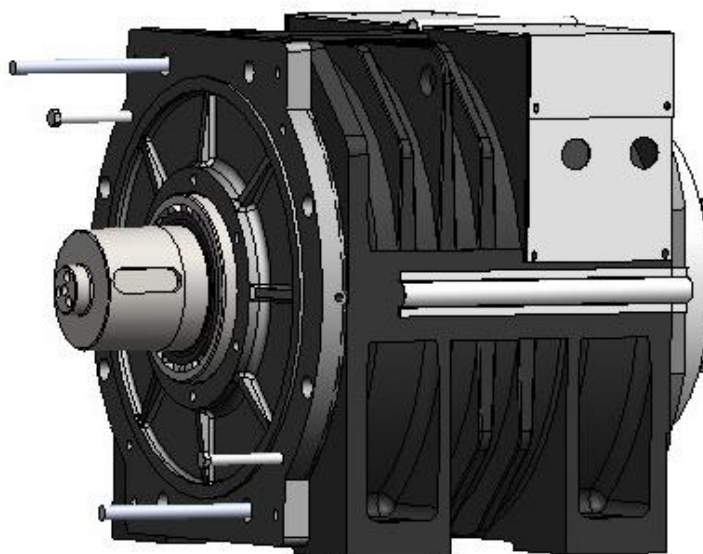

Figure 75: Loosen the front cover
7. Screw the threaded rod M16x200 (2 pieces) into the M16 hole of machine base opposite each other. Screw the bolts M12x100 into the M12 hole of Front cover opposite each other. Tighten the bolt M12x100 (2 pieces) evenly and slowly with open end wrench (18mm) until the Front cover is out of the bearing. See Figures 75 and 76.